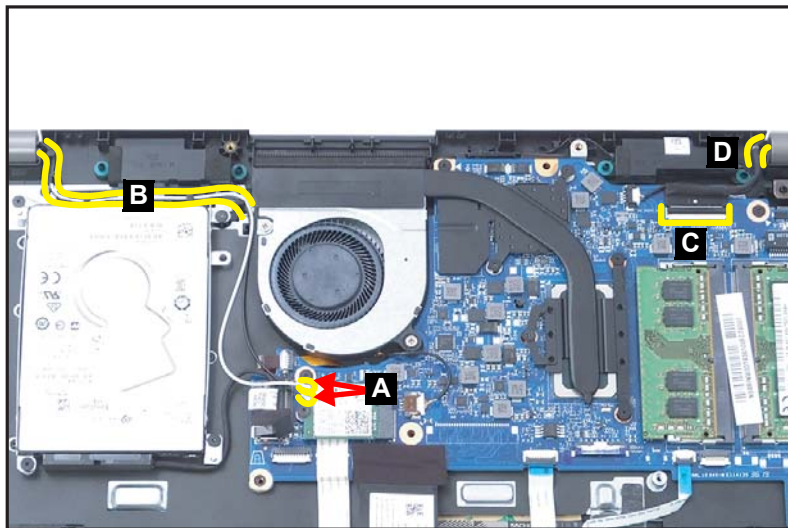

Figure 1-26. LCD Module Removal
1. Disconnect the WLAN antennas cables from the WLAN module connectors (A) (Figure 1-26).
2. Remove the WLAN antennas cables (B) from the cable guides as shown in Figure 1-26.
3. Disconnect the eDP cable from the mainboard connector (C) (Figure 1-26).
4. Remove the eDP cable (D) from the cable guides as shown in Figure 1-26.